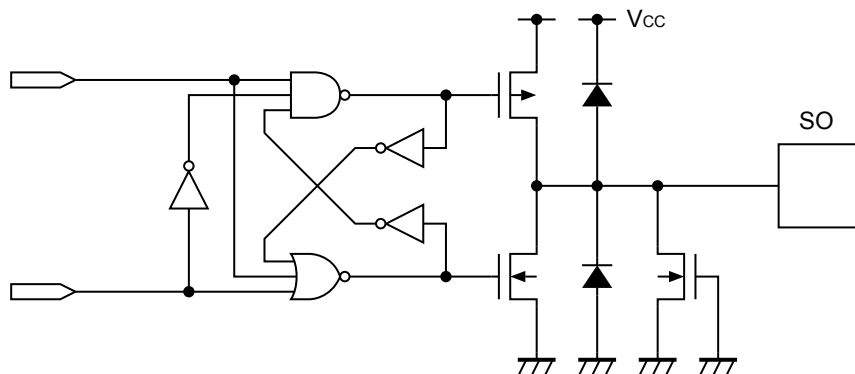

Figure 23  $\text{SO}$  Pin
**Figure 23** shows the equivalent circuit of the output pin. This pin has the tri-state output of "H" level/"L" level/high impedance.